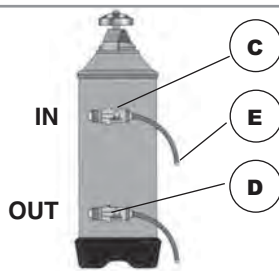

Fig. 29
- 1) Turn the machine off and place a container large enough to contain at least 5 litres under tube E (Fig. 29).